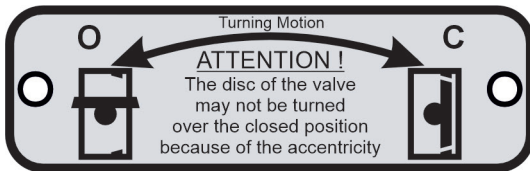

Fig. 5-1: Turning direction notice sign
- ⇒ The turning direction is indicated on the butterfly valve by a sign, see Fig. 5-1.